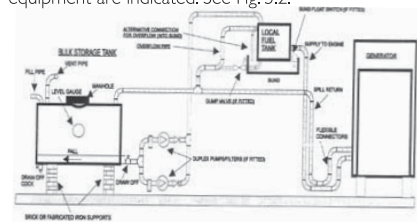

Fig. 5.2. With Intermediate Fuel Tank
#### 5.6. With Intermediate Fuel Tank (Fig. 5.2)
1. An automatic duplex fuel transfer pump and primary filter system arranged to start the standby pump should the duty pump fail. The transfer pump(s) must be sized to cater for the total fuel required by the engine, i.e. fuel consumed and the spill return volumes (Fig. 5.2.);
The connection details for these additional items of equipment are indicated. See Fig. 5.2.